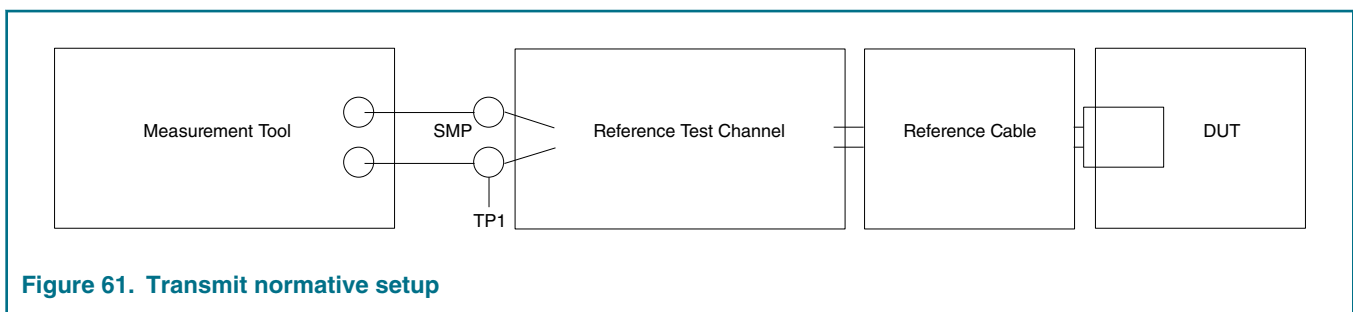

Figure 61. Transmit normative setup
2. See Figure 61. on page 166.